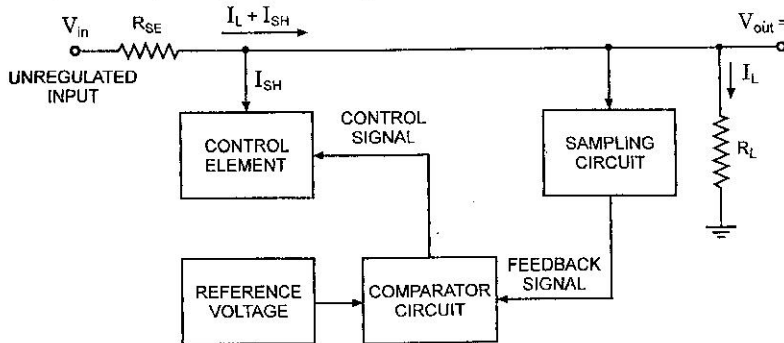

Fig. 32.11. Block Diagram of a Shunt Voltage Regulator
32.5.2. Shunt Voltage Regulator. A shunt voltage regulator provides regulation by shunting current away from the load. The block diagram of such a voltage regulator is depicted in Fig. 32.11. The input unregulated voltage provides current to the load. Some of this current is shunted away by the control element to maintain the regulated output voltage across the load. If the output voltage tends to change due to change in load, the sampling circuit provides a feedback signal to a comparator circuit which then provides a control signal to vary the magnitude of current shunted away from the load. For example, when the output voltage tends to fall, the sampling circuit provides a feedback signal to the comparator circuit which then provides a control signal to draw lesser shunt current, providing more load current, thereby keeping the regulated voltage constant.